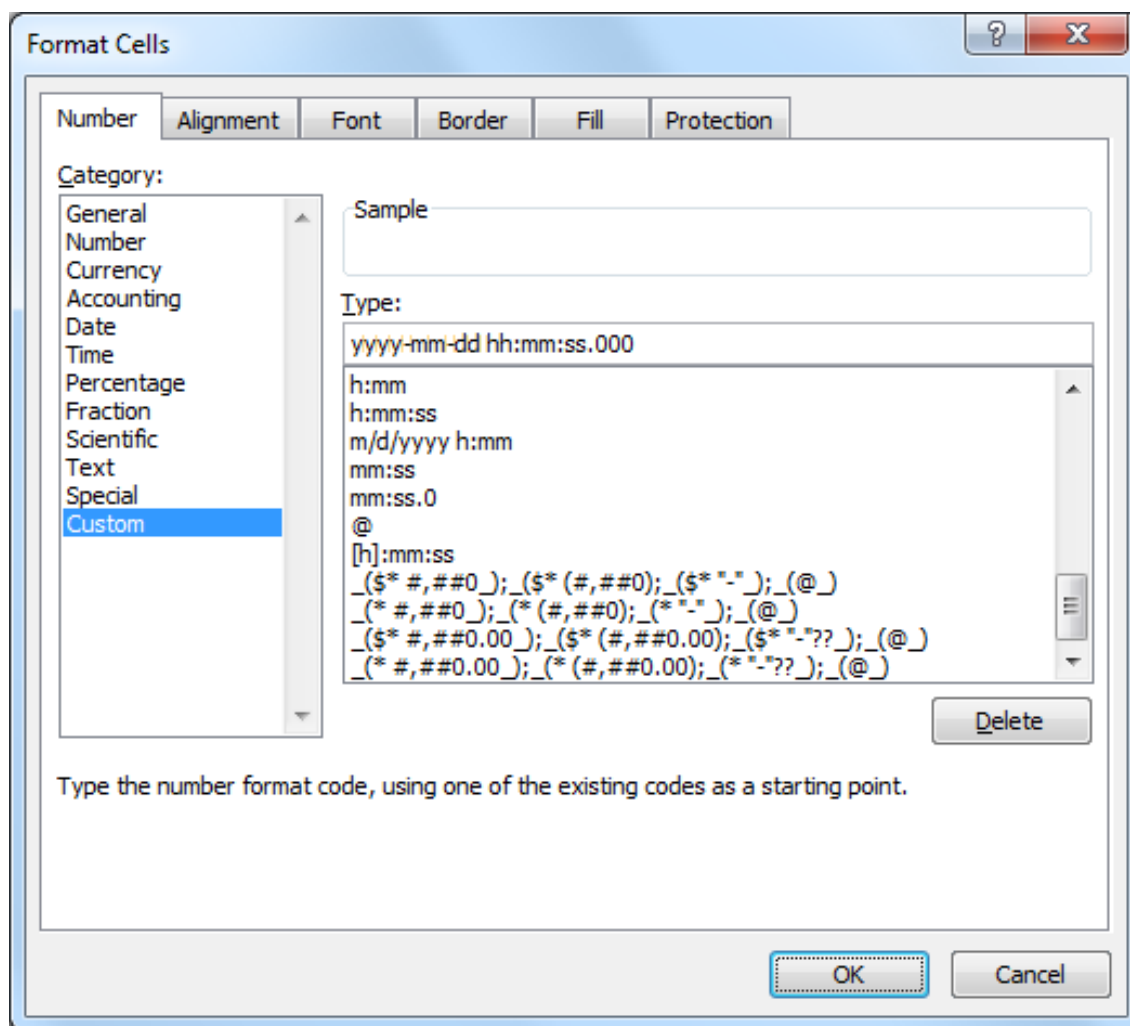

Figure 6.16: Microsoft Excel 2010™ Format Cells
7. In order to change the cell format of the date and time columns from text to date time format, highlight the column(s) and open *Format Cells* in the *Numbers* group on the *Home* tab. Select *Custom* and enter *YYYY-MM-DD hh:mm:ss.000* as shown in Figure 6.16.